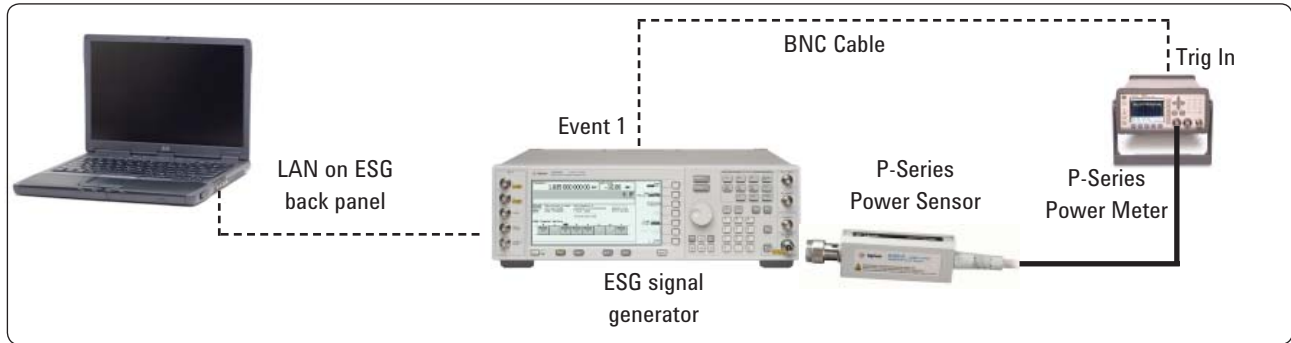

Figure 5. P-Series power meter and ESG signal generator setup diagram
3. Connect the P-Series power meter and sensor as shown in Figure 5.